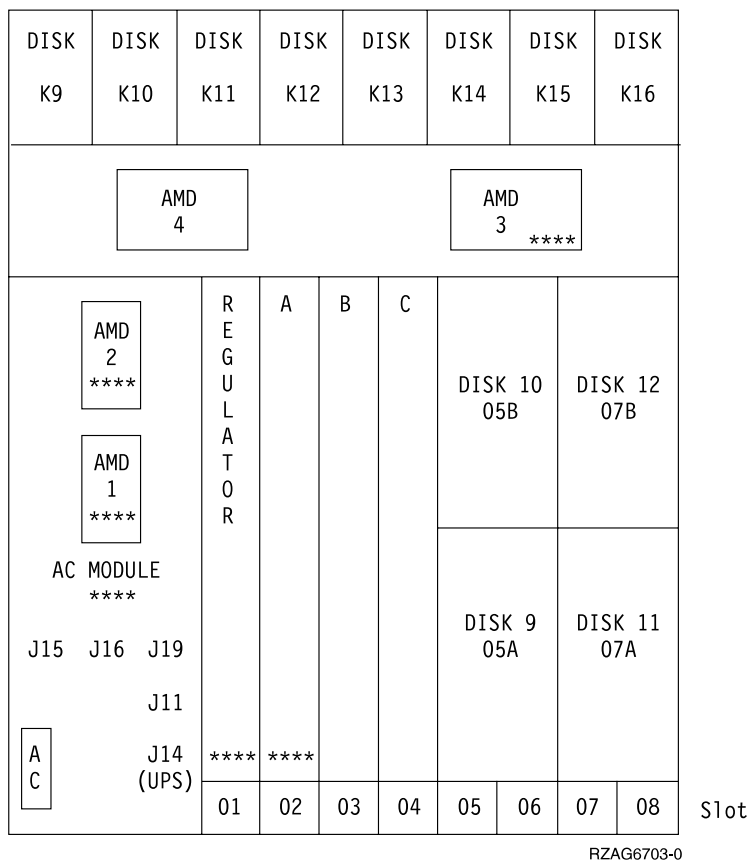

Figure 71. Rear View
4. Figure 71 on page 758 is shown with FC 5052/5058 installed.